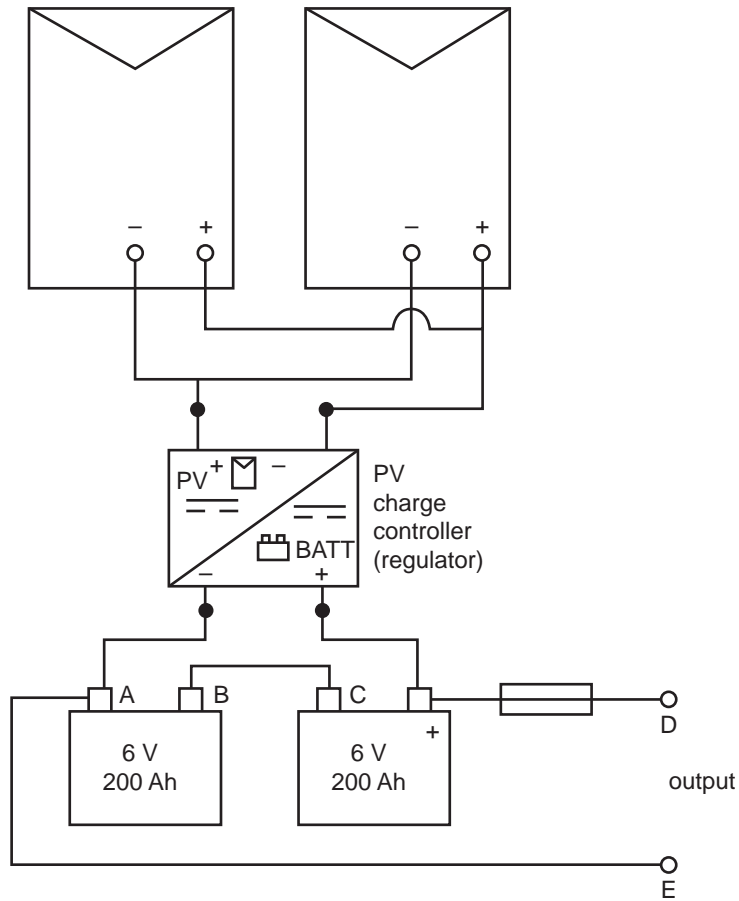

Figure 8
Figure 8 shows a 12 V_{DC} PV power supply.
- a. On Figure 8, label the points A, B, C, D and E with the correct battery polarity for the required 12 V_{DC} supply for the microcontroller circuit, pump motor and solenoid valve. 2 marks